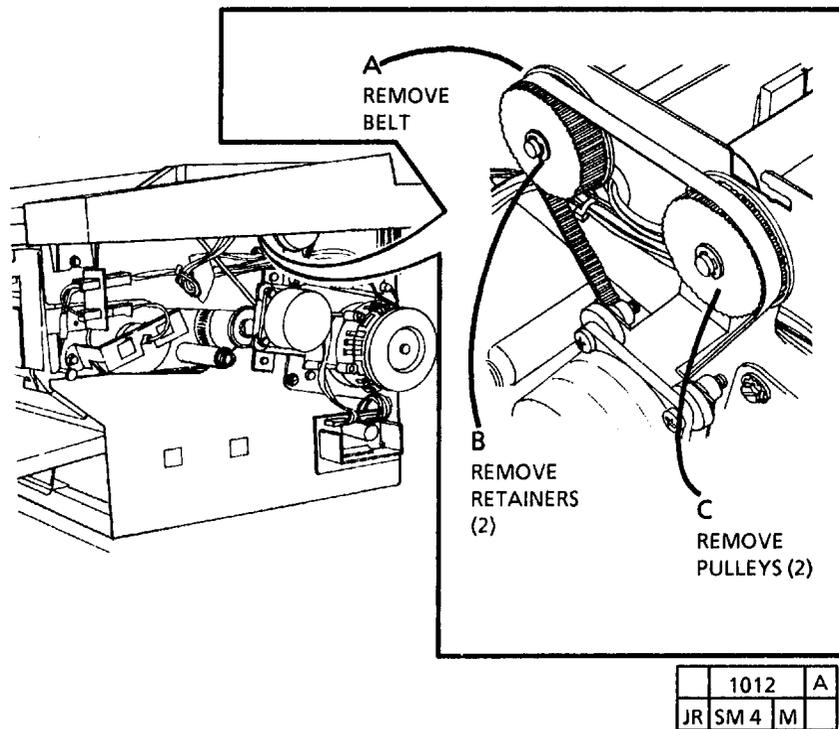

Figure 1. Remove the Drive Pulleys
6. (FIGURE 1): REMOVE THE DRIVE PULLEYS.